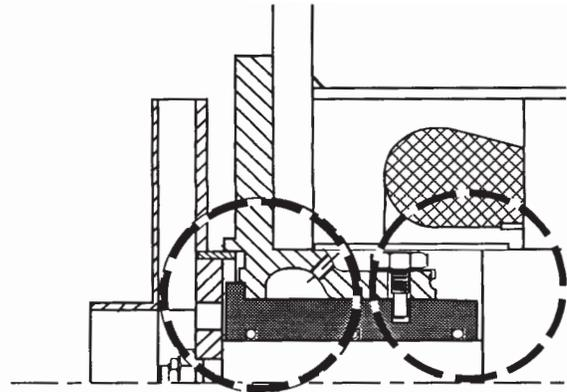

Figure 1-5. Thrust Surfaces, Models GA, GB, and GC
- A) All Chempump models equipped with thrust surfaces provide a replaceable bearing surface against which axial loads can be carried during upset conditions. This arrangement provides two thrust surfaces between the impeller and rotor assembly. These surfaces prevent metal to metal contact in the event of abnormal pump operation such as running dry or cavitation. See Figure 1-5.